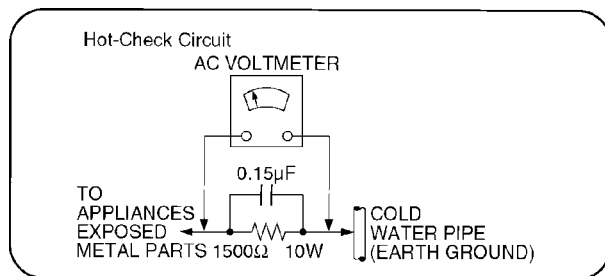

Figure 1
1.1.2. Leakage Current Hot Check (See Figure 1.)
2. Connect a $1.5\text{k}\Omega$, 10 watts resistor, in parallel with a $0.15\mu\text{F}$ capacitors, between each exposed metallic part on the set and a good earth ground such as a water pipe, as shown in Figure 1.